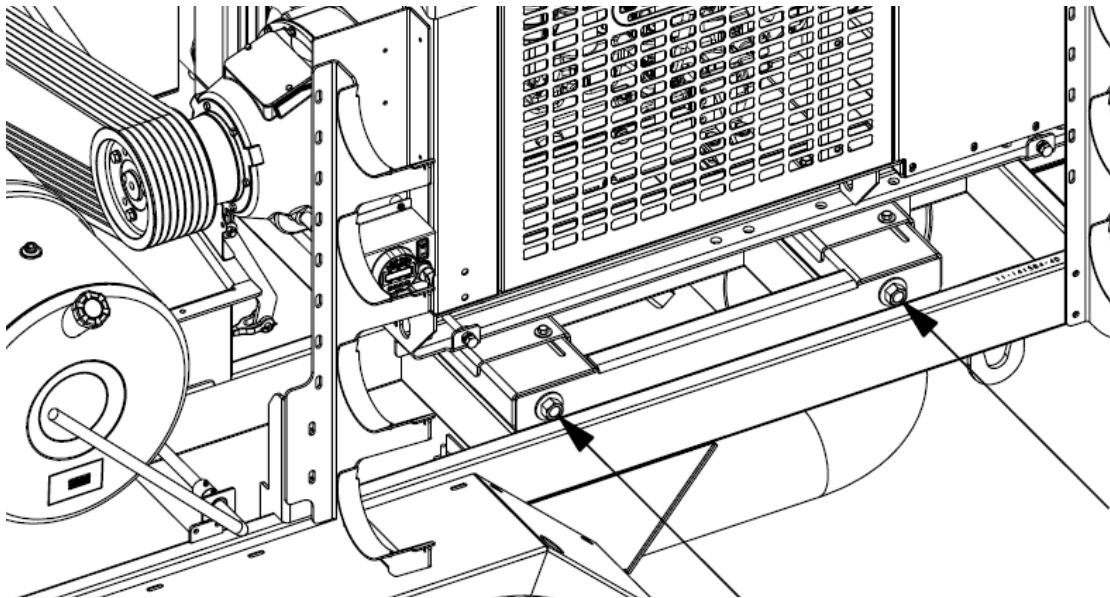

Figure 5: Engine adjusting bolts
7. If there is angular misalignment (**Figure 7 (1) and (2)**), turn the adjusting bolts (as seen in **Figure 5**) on the engine or motor to adjust the angular shaft alignment.